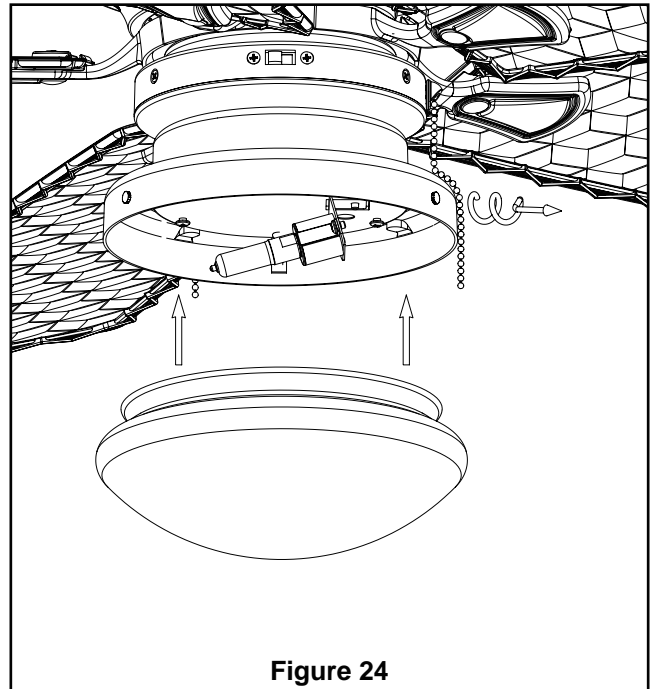

Figure 24
2. Loosen the three thumb screws provided on the rim of the light kit so the lip of the glass can be raised up into the light kit. (Figure 24)